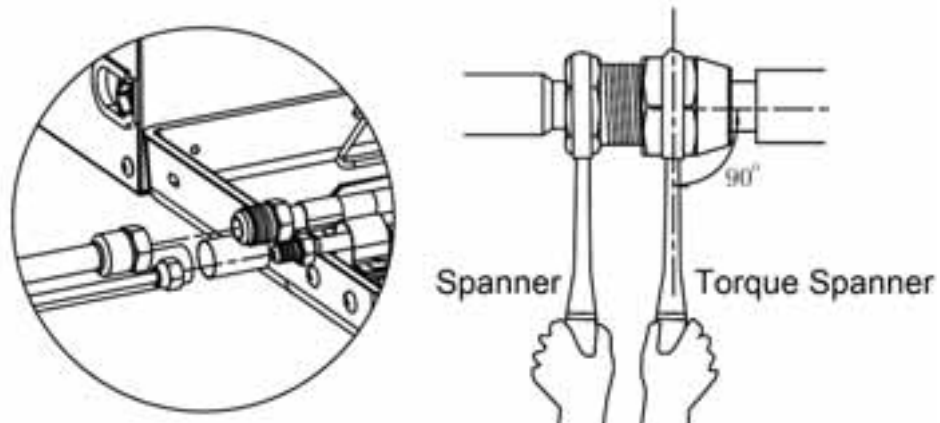

Fig.21
- (1) Adhere to the following principles during piping connection: Connection pipeline should be as short as possible. The height difference between indoor and outdoor units should be as short as possible. Keep number of bends as few as possible. The radius of curvature should be as large as possible.
- (2) Weld the connection pipes between indoor and outdoor unit. Please strictly follow the requirements for welding process. Rosin joints and pin holes are not allowed.
- (3) When laying the pipes, be careful not to distort them. The radius of bending parts should be more than 200mm (8 inches). The pipes cannot be repeatedly bent or stretched, otherwise the material will become brittle. Do not bend or stretch a section of pipe over three times.
- (4) Please use a torque wrench to connect union nut on the indoor unit. See Fig. 21.